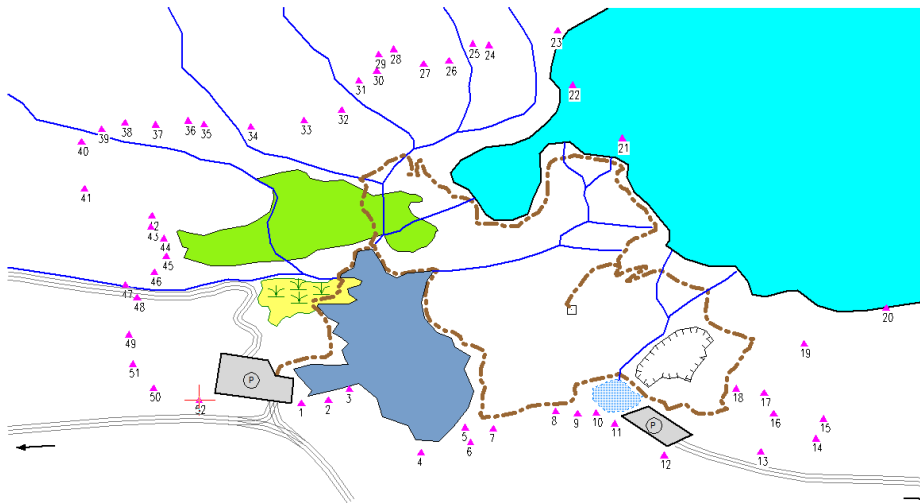

Figure 3-12: Triangle Features Highlighted in Magenta
4. If you scroll down on the sidebar you will see that many triangle features are selected and highlighted in magenta. These features have the name SURVEY. See Figure 3-12.